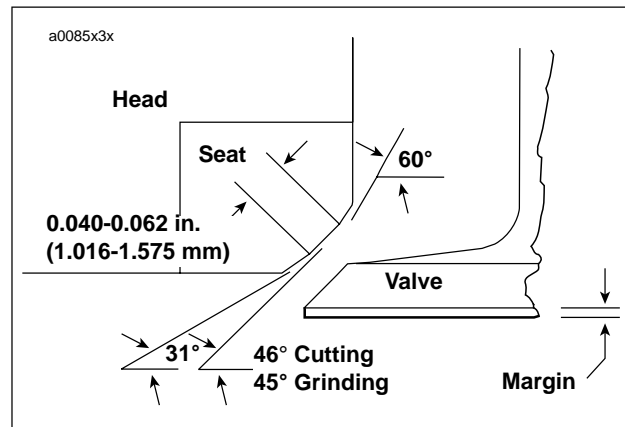

Figure 3-57. Valve Seat Angles
See Figure 3-57. Valve face angle is 45° for both intake and exhaust valves. If a valve re-facing grinder is used, it must be adjusted exactly to this angle.
3. See Figure 3-57. Check the contact pattern on valve face. It should be 0.040-0.062 in. (1.016-1.575 mm) wide, and its center should be positioned $2/3$ of the way toward the outside edge of face.